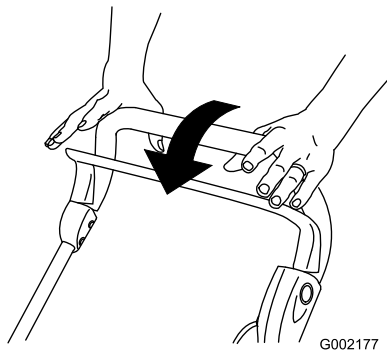

Figure 18
- Release the control bar (Figure 18).